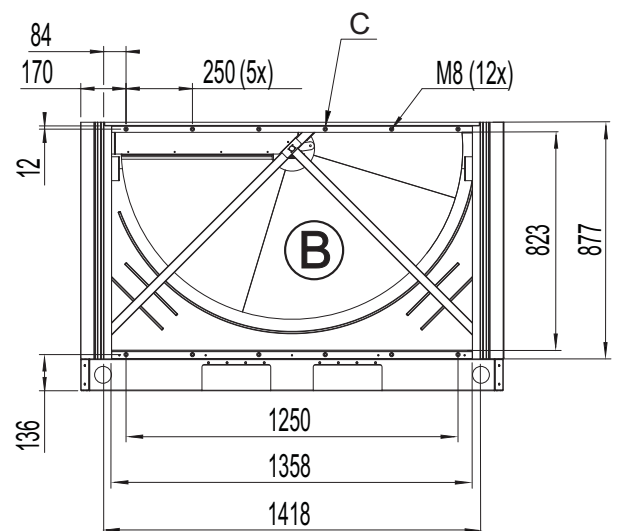

Figure 3.28 Process air inlet
**NOTE!** Fan protection grid removed to clarify dimensions in Figure 3.28.